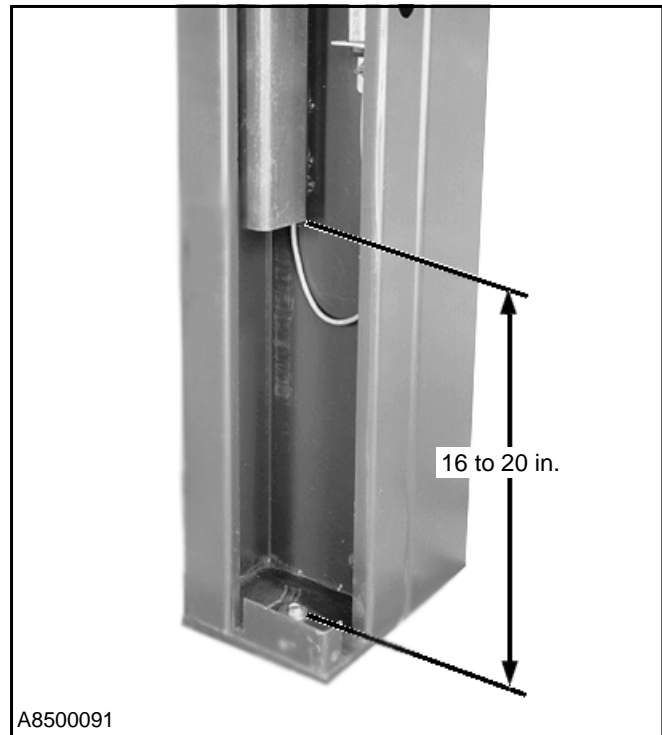

Figure 17
IMPORTANT: The 16- to 20-in. mounting height for each counterweight, as indicated in Figure 17, is adequate for most Turbo-Seal doors. However, for extra-wide or -short doors, the counterweights may have to be adjusted closer to the bottom of the side column.
5. Measure the distance between the bottom of each counterweight and the base of the side column. The distance between each counterweight and associated base plate should be 16 to 20 inches. (See Figure 17)